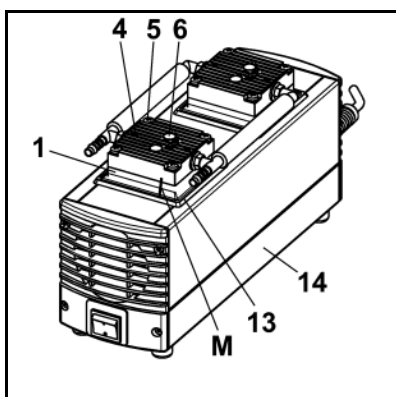

Fig. 4: Removing pump heads
1. At both pump heads: Mark the position of head plate (Fig. 4/4), intermediate plate (1), cover (13) and housing (14) relative to each other by a drawing line (M) with a pencil. This helps avoid incorrect assembly later.
2. At both pump heads: Undo the 4 screws (5) in the head plate (4).
3. Remove both pump heads (each consisting of a head plate (4) and intermediate plate (1)) together from the pump housing (14).
- i** It is necessary to ensure that the O-ring (fig. 4/9) lies on the end of the connecting tube.
2. Place the two pump heads that are joined by the pneumatic connecting tube(s) (10) on the housing according to the markings (M).
- i** Make sure the cover (13) is placed on the pump head and is not jammed. For this, carefully slide a small screw driver between the cover (13) and the pump head
- i** If the cover is jammed between the intermediate plate (1) and head plate (4), then the pump will not provide the nominal pneumatical performance.
3. On both pump heads: Gently tighten the screws (5), evenly and diagonally (tightening torque: 3 Nm).